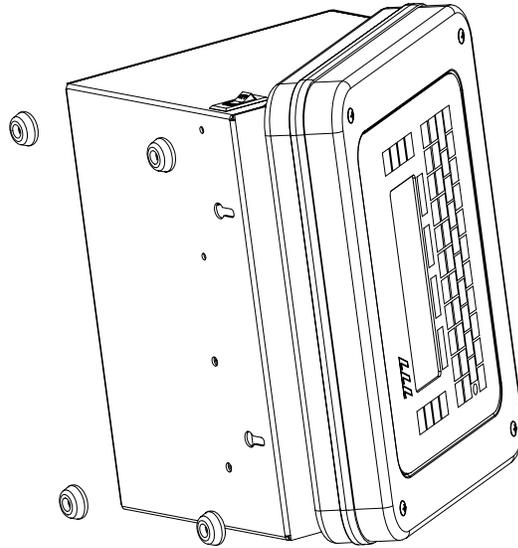

Figure No. 4
7. Turn the indicator on its side and remove the rubber footpads from the bottom of the main housing. See Figure No. 4.